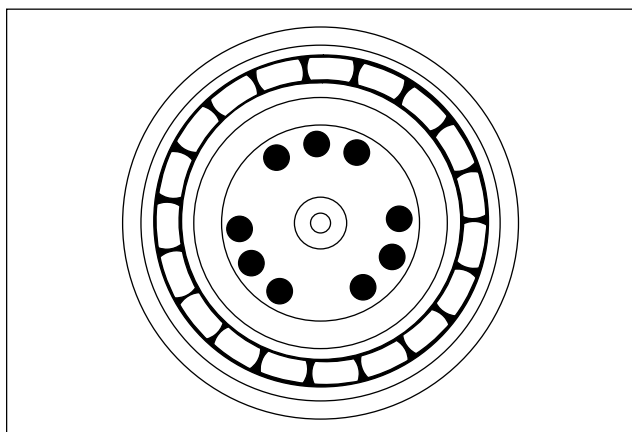

Figure 6
3. Stake nose of pinion in 9 places, using a center punch or equivalent tool. See Figure 6.